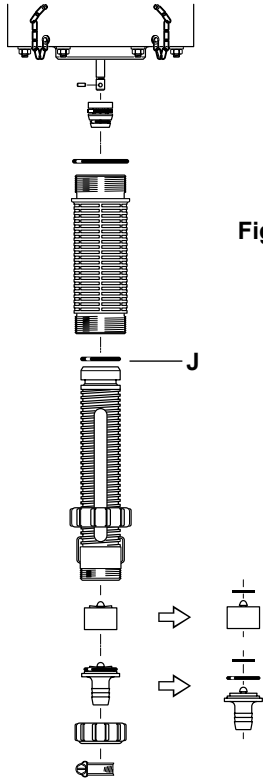

Fig. 16
- Grease the seal with silicone (**Fig. 16-J**).